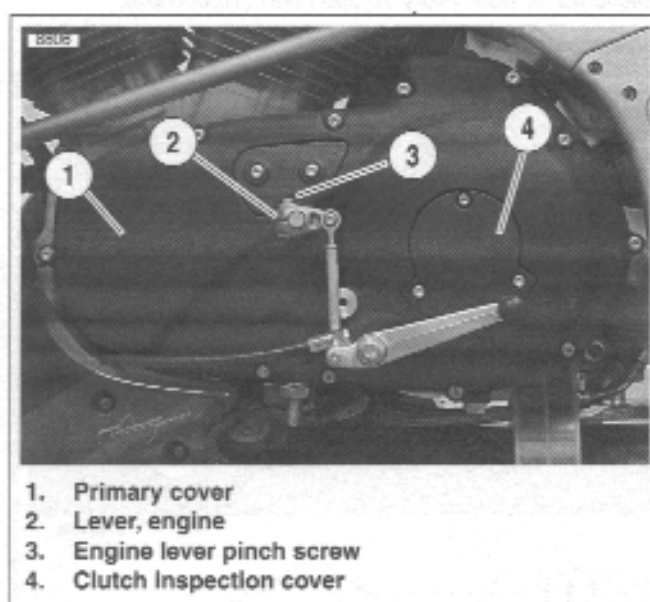

Figure 6-8. Installing Primary Cover
11. See Figure 6-8. Install clutch inspection cover (4) with **new** gasket and three TORX screws with washers. Tighten screws in a crosswise pattern to 84-108 in-lbs (9.5-12.2 Nm).
12. Install rubber washer and shifter lever assembly (2).
13. Tighten engine lever pinch screw (3) to 12-14 ft-lbs 16.3-19.0 Nm).